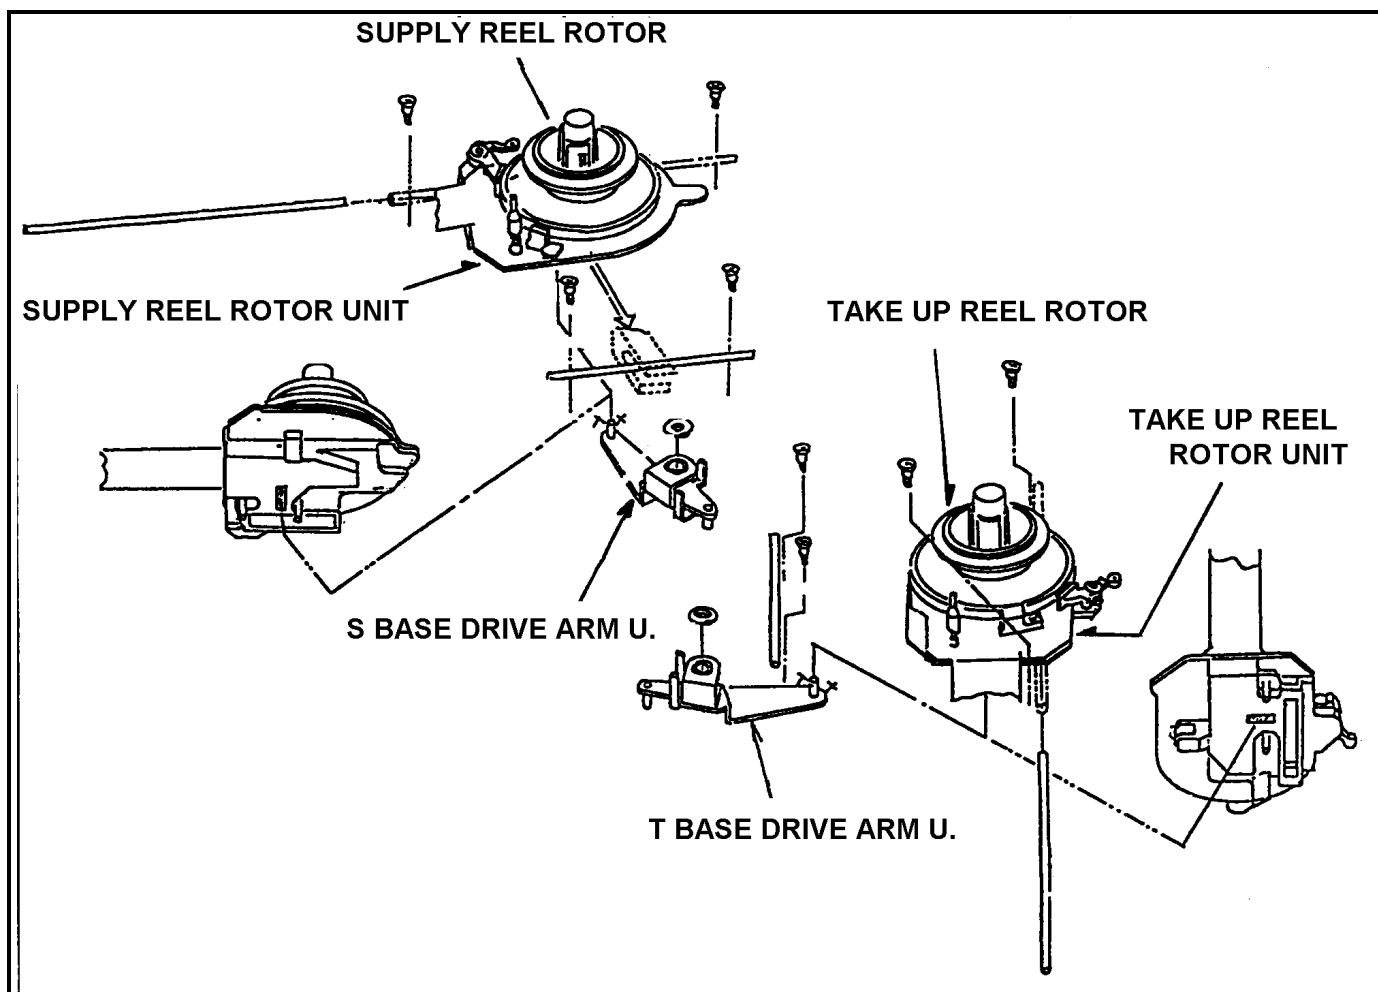

Fig.6-3-3 Installation of S & T Reel Rotor Unit
2. Hang on the Reel Rotor Unit to Reel Inner Rail and Install the Reel Rotor Unit then the pin of Drive Arm Unit should be matched with groove position of Reel Base as shown in Figure 6-3-3.
3. Install the 4 screws (C), (D) and (E).
8. Adjust the Motor Torque Offset value (Refer to item 1-1 of section 3).
9. Confirm that the Tension value on playback mode (Refer to item 5-11).